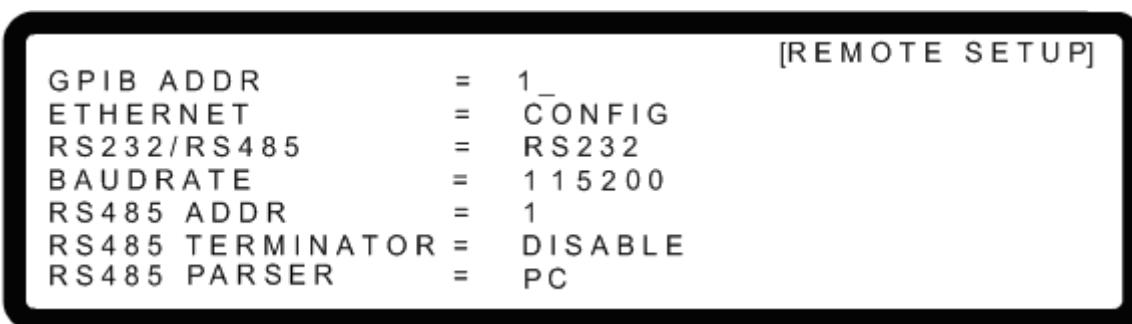

Figure 3-148
1. Use the “”, “” keys to move the cursor to the GPIB ADDR column as shown in Figure 3-148.